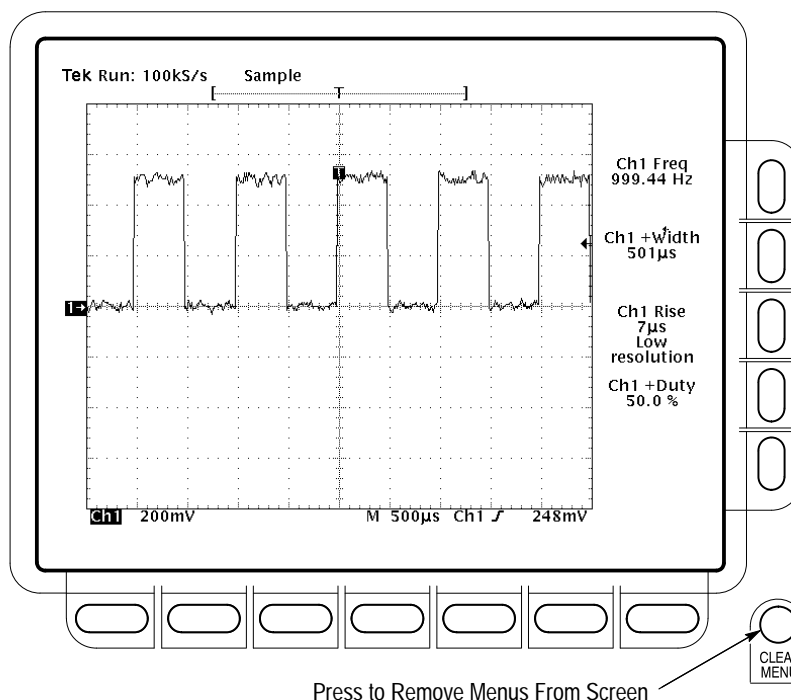

Figure 2-15: Four Simultaneous Measurement Readouts
8. To move the measurement readouts outside the graticule area, press **CLEAR MENU**. (See Figure 2-15.)